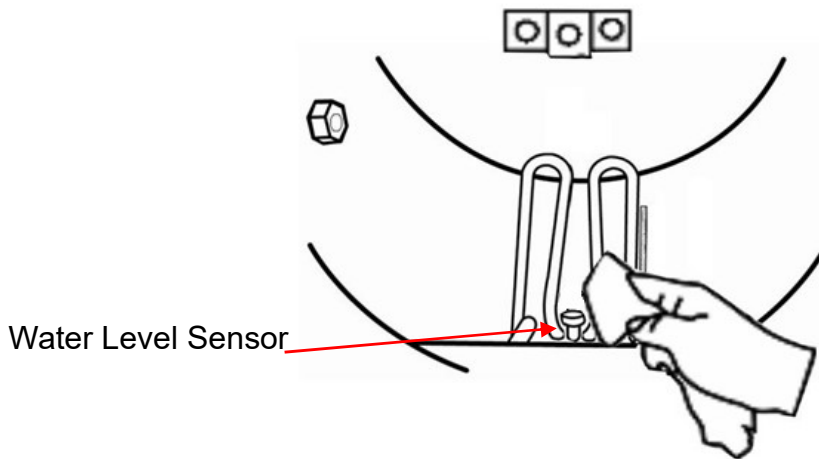

Figure 178
- Use the non-corrosive cleaner and stiff bristled brush or sponge to clean the water level sensor at the rear of the chamber as shown in Figure 178.